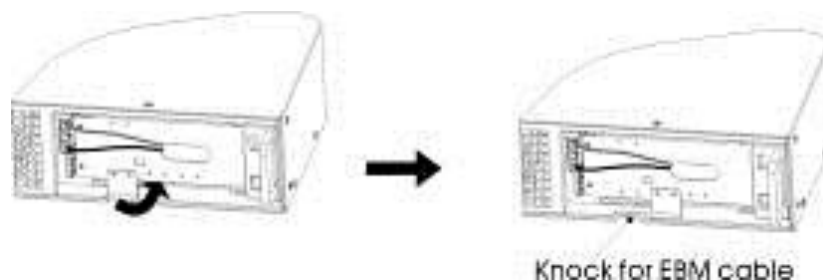

Figure9 Removing the UPS Cable Knockout
b) On the bottom of the UPS front cover, remove the EBP cable knockout (see Figure 9).